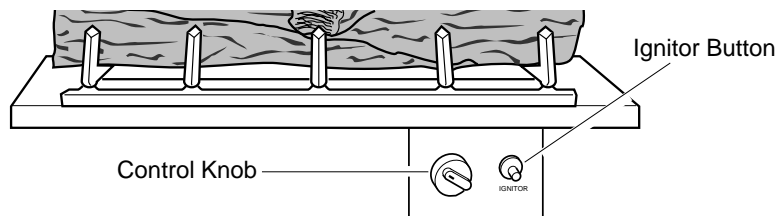

Figure 31 - Control Knob and Ignitor Button Location
4. Wait five (5) minutes to clear out any gas. Then smell for gas, including near the floor. If you smell gas, **STOP!** Follow "B" in the safety information above. If you don't smell gas, go to the next step.
5. Slightly depress and turn control knob counterclockwise  to the PILOT position. Press in control knob for five (5) seconds (see Figure 31, above).